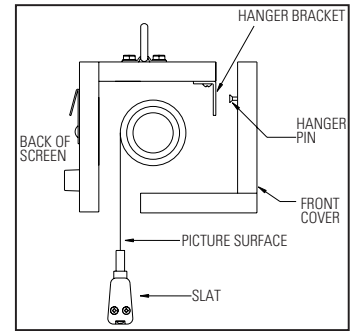

FIGURE 1
3. Remove the front cover of the screen from the back of the screen. Lift front cover up approximately 1/2" and pull away from back of screen. See Figure 1.